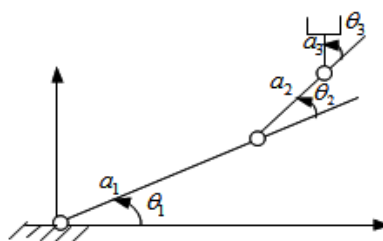

Figure 1
- Obtain the D-H link parameters for the manipulator shown in figure 1.